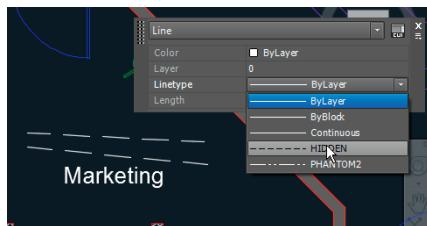

FIGURE 6.25 Changing a specific object property
5. Select the continuous line drawn in step 2, and change its Linetype property to Hidden (see Figure 6.25). Press **Esc** to deselect.